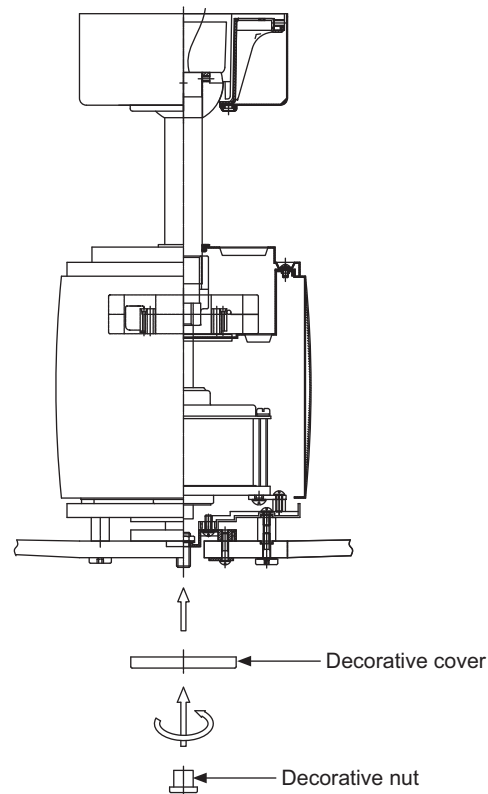

Fig. 16
Step 1. Attach the decorative cover and decorative nut onto the fan motor stem. DO NOT OVER TIGHTEN. (Fig. 16)